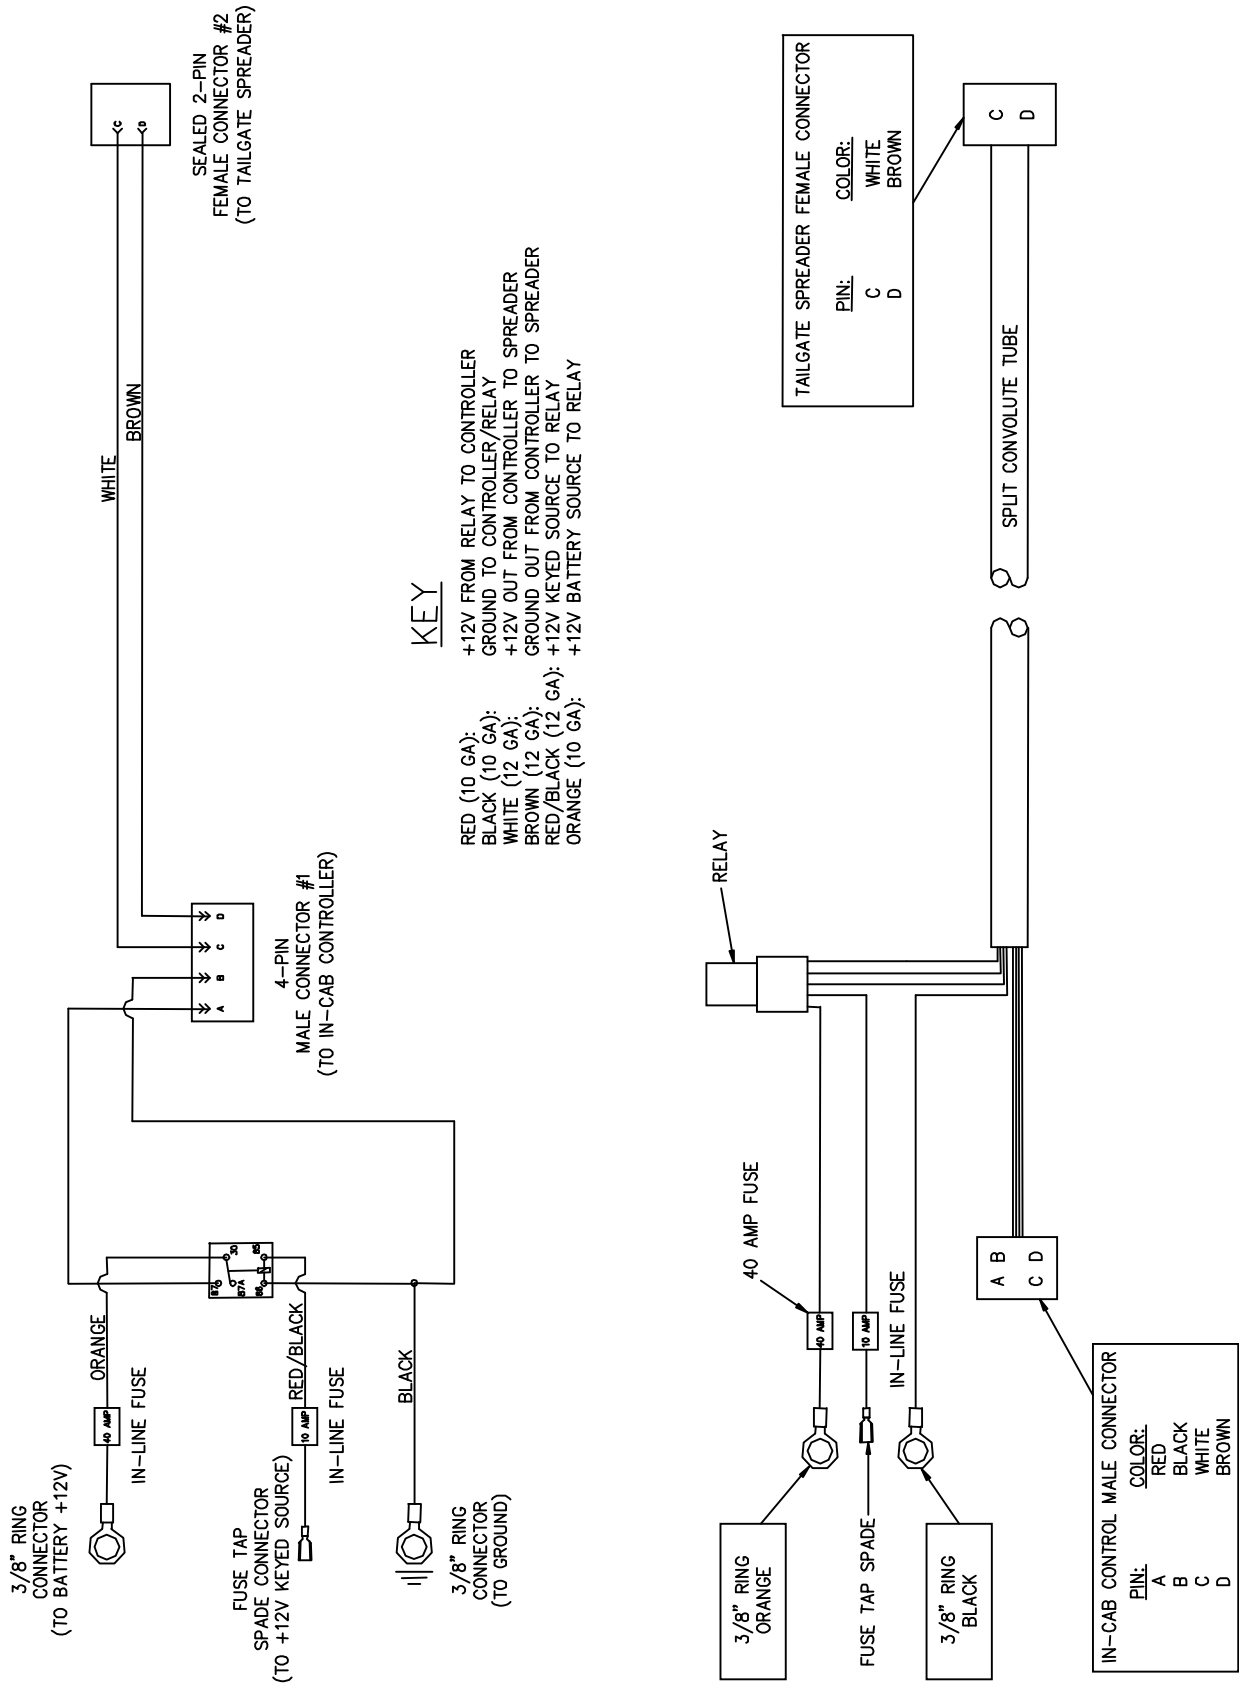

Figure 2. Vehicle Side Harness Diagram (TGS06085)
- 1) Refer to Figure 2. Begin at the rear of the vehicle. Secure the 2-pin, sealed connector (Female Connector #2) near the center of the rear bumper using Cable Ties (MSC04088).